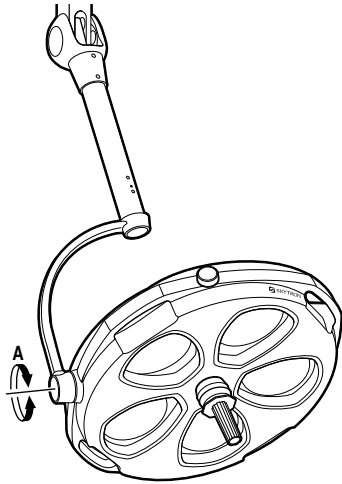

Figure 2-2. Lighthouse Pitch
a. Check the pitch axis tension of each lighthouse by moving it through its full range of motion. See figure 2-2.